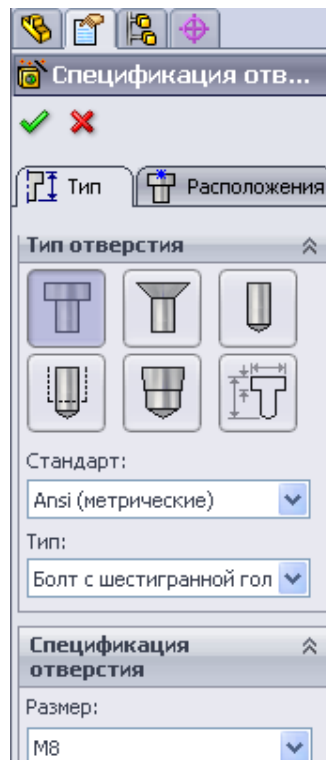

Figure 7.8 – Hole parameters
7.2.9 Create a hole in the front face of the vertical box. Why find the command "Insert" => "Elements" => "Hole for fasteners" in the main menu . Then, click on the desired face, on which the hole will be located, set its parameters according to figure 7.8, "End condition" - "Through and through".